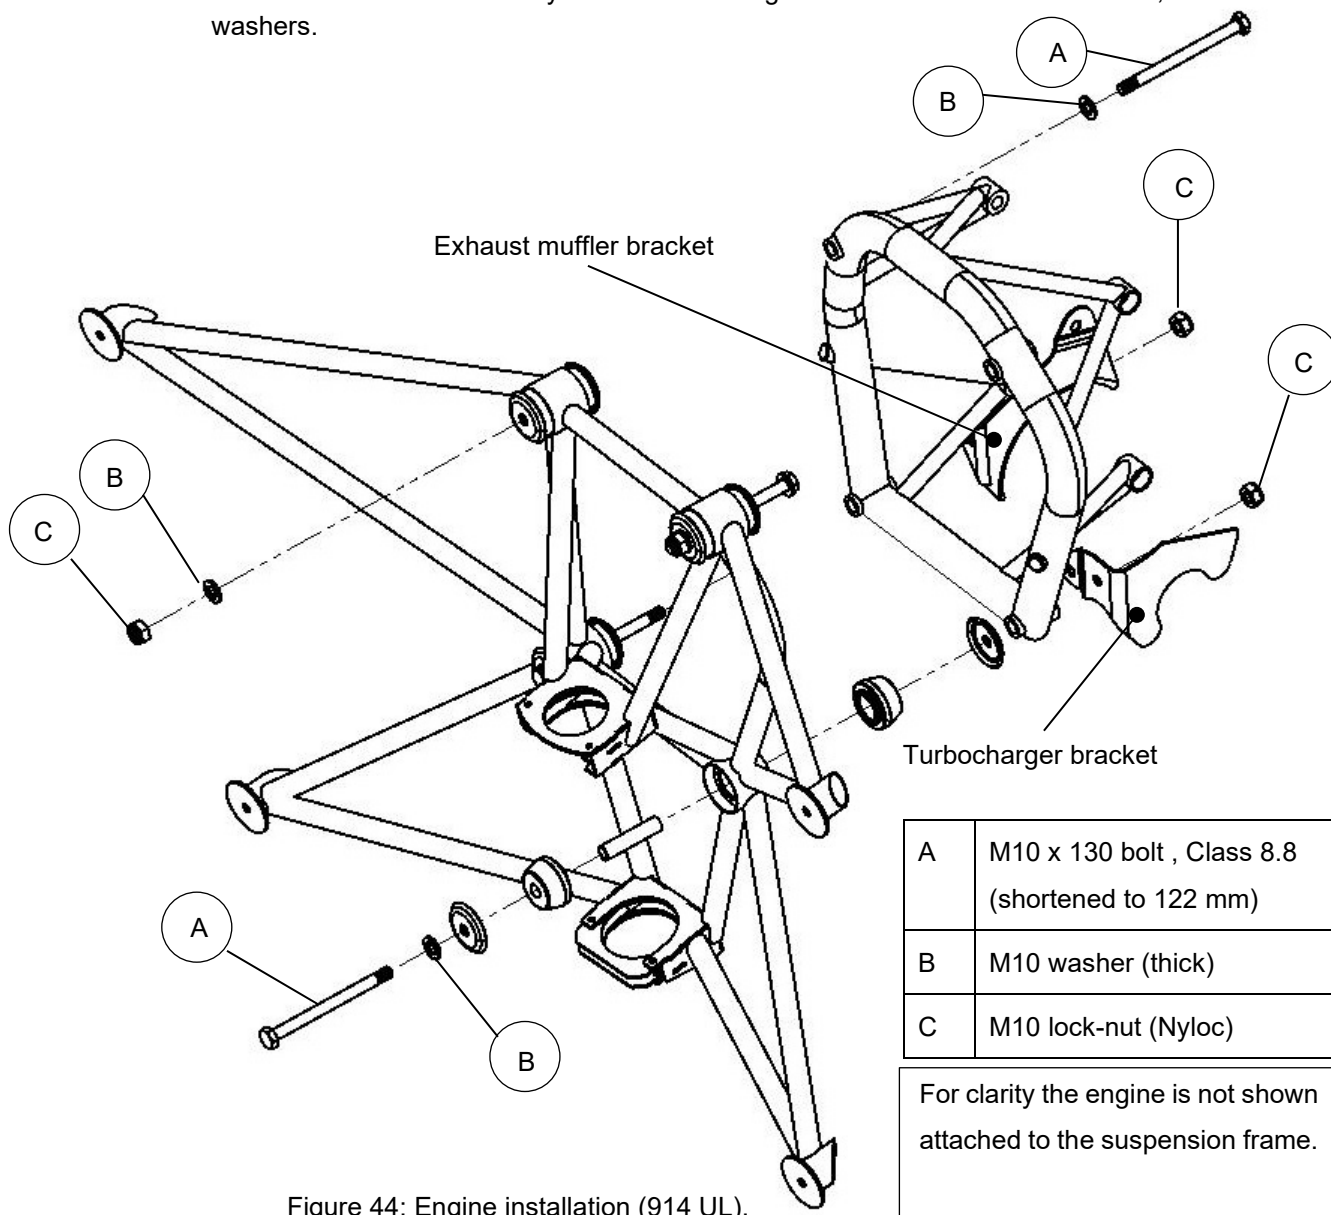

Figure 44: Engine installation (914 UL).
- Note that the two top mounting bolts are installed with the bolt heads facing forward. The bottom bolts are installed with the bolt heads facing backward. Observe correct placement of washers, spacers / bushes and vibration dampers (refer to Figure 44). Note that the two bottom lock-nuts seat directly on the turbocharger and exhaust muffler brackets, without washers.